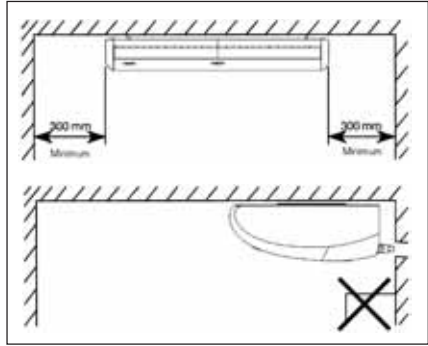

Fig. 5 - Underceiling assembly
- a) The unit must only be installed at the following positions: Horizontal under the ceiling, vertical on the wall. (See Fig. 5 and 6).